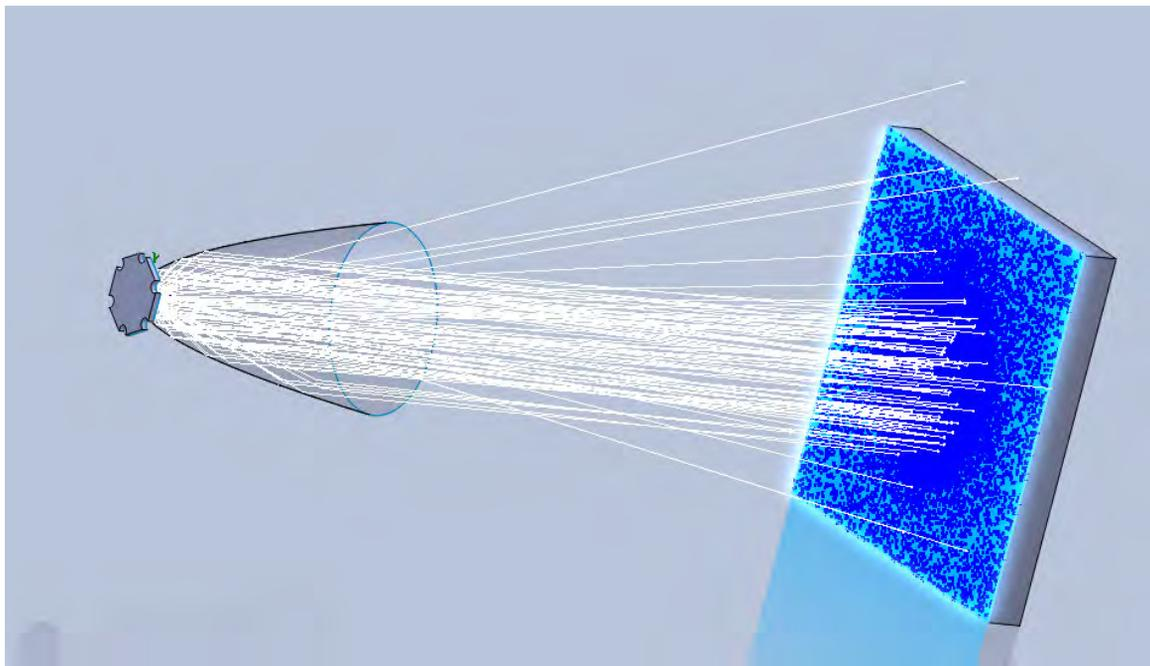

Figure 87 Results of the spots diagram calculation, overlaying the system model
- 10 Click the **Model** tab on the lower portion of the graphics area to view the Spots diagram calculation. Results of the spots diagram calculation overlay the target. See Figure 87.